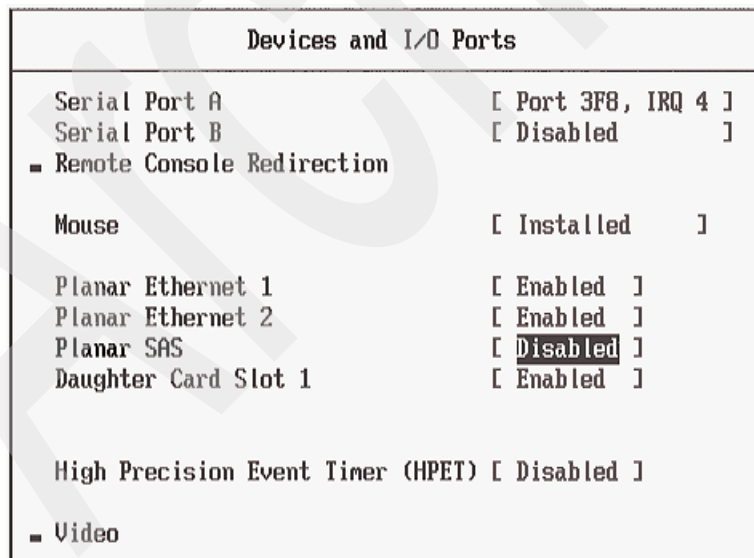

Figure 20-11 BIOS configuration - Planar SAS disable
4. Select the **Disable** option for the Planar SAS component, as shown in Figure 20-11. This option will disable the onboard SAS controller.